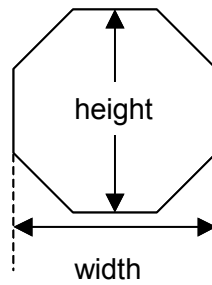

Figure 6. Shape of bump ball
11. The shape of a bump ball is regular octagon and its height and width are the same. See Figure 6.